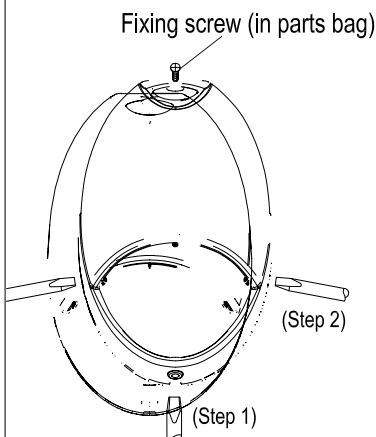

Figure 2
4. For "Normally Off " standby battery backup operation only: connect the AC power as shown in Fig. 2 or 3 below and remove the jumper between terminals 1 and 2. The slide switch is defeated in this mode so it can be in either the Photo Sensor or Wall Switch positions.
- Figure 2: Installation using junction-box